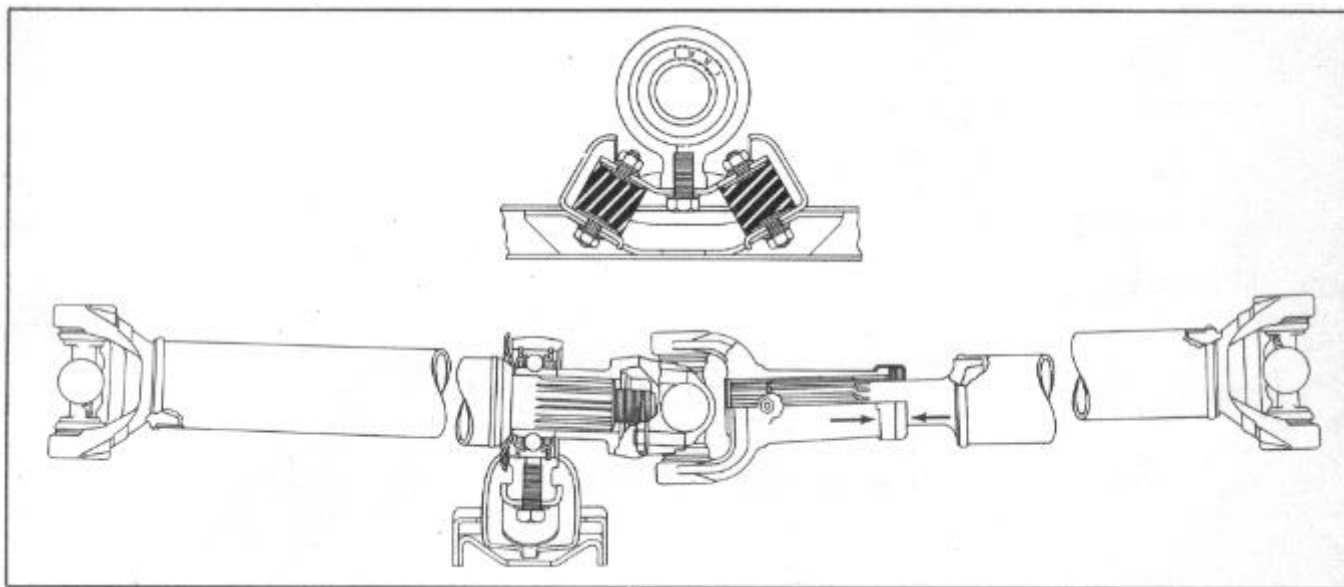

FIGURE 1
**NOTE:** When all Universal Joints are in the same plane, the arrow on the front face of the rear propeller shaft tube will be in line with the arrow on the rear propeller shaft sleeve yoke assembly, Figure 1. If arrows are not lined up, rough car operation will result which will cause wear or failure of the universal joints and put an unbalanced load on the transmission, clutch, engine and rear axle.